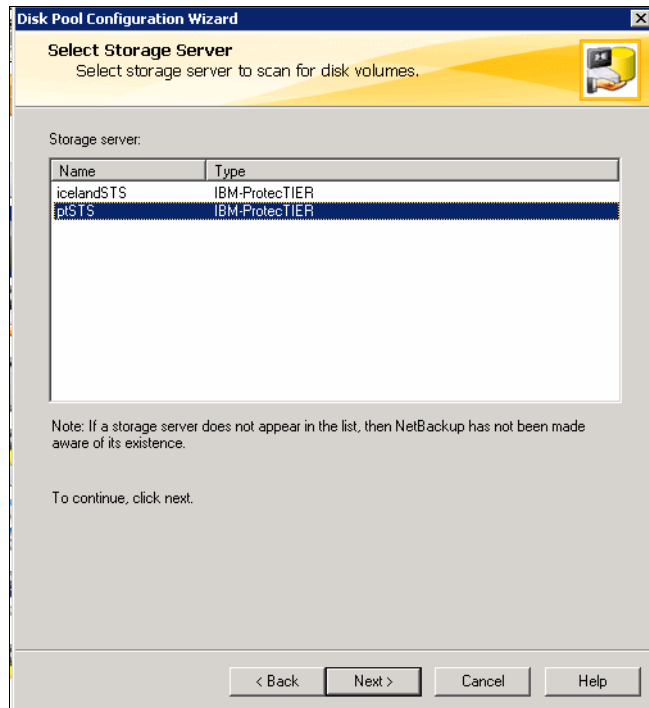

Figure 9-25 Select Storage Server window
- In the Select Storage Server window (Figure 9-25), you can choose the storage server that is predefined in the NetBackup software. Select the STS and then click **Next**.